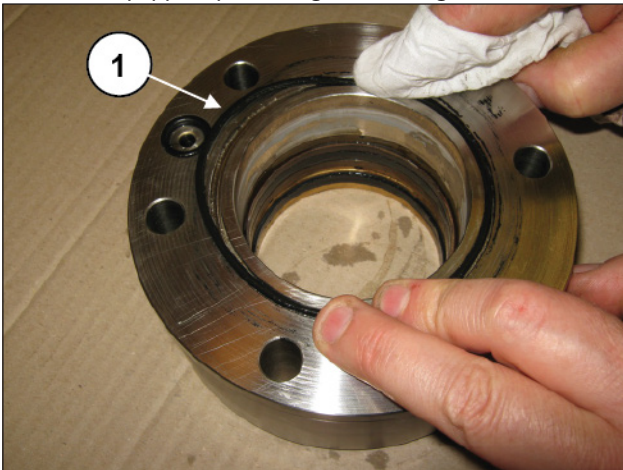
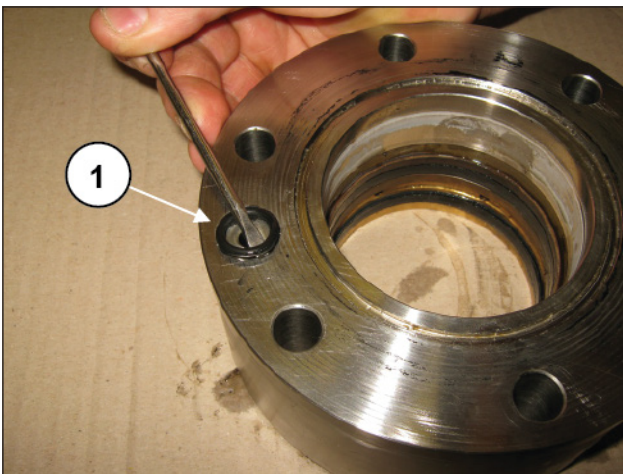

Fig. 210
Fig. 211
Disassemble the piston sleeve and remove the O-rings with which it is equipped (pos. ①, Fig. 210 and Fig. 211).